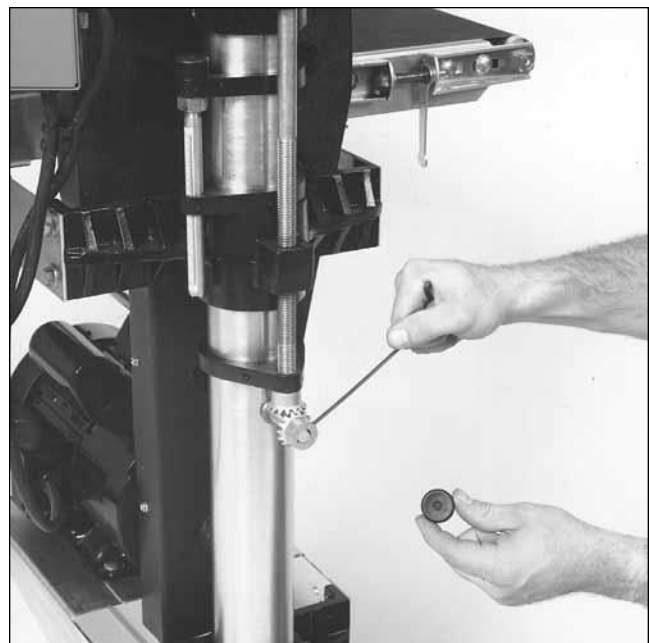

Fig. 14. Adjusting miter gears for proper mesh.
5. If the height adjustment mechanism feels rough, check the miter gear (Fig. 14) alignment. The miter gears can be adjusted on their shafts by loosening the set screws on the gears. Check and adjust so that the gear mesh is not too tight or too loose, and that the gear teeth align with the opposing gear. Note that the shaft collars located on the transfer rod should be adjusted to control the lateral movement of the transfer rod to maintain accurate miter gear alignment and mesh.
Remove the plastic cap from the miter gear (Fig. 14) on the outboard side of the machine. Loosen the set screw of the miter gear and slide it back to disengage it from the miter gear of the adjusting screw. Turn the adjusting screw handle to raise or lower the outboard side of the table so that the measurement taken above equals the inboard side of the table. After adjusting is complete, re-engage miter gear making sure that miter gear set screw is aligned with flat on cross bar shaft.
2. Remove the miter gear from the right (inboard) side of the transfer rod (Fig. 14). (If E clips are attached to the rod, remove both at this time.) Now loosen the shaft collar on the left (outboard) side of the rod, and pull the rod back enough so the V-belt can be removed. (Make sure to catch the nylon washer which will drop off the transfer rod.)